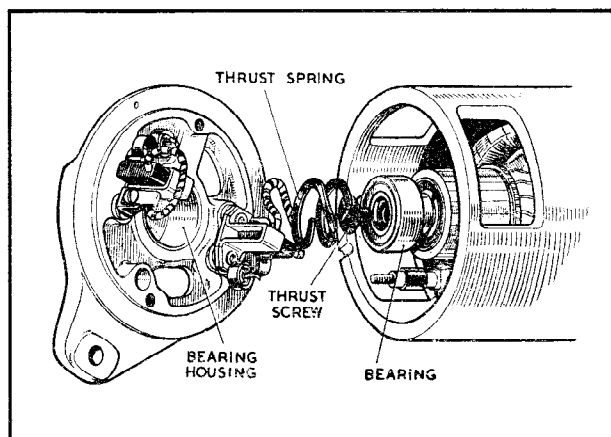

Fig. 12 Commutator end bearing details (generators C45PVB, C45PVS, etc., later models)
- (ii) With later machines the bearing assembly has been modified (see Fig. 12) to give the bearing a longer service life. The bearing is secured to the armature shaft by a thrust-screw, and can be withdrawn with an extractor after the screw has been removed. See that the new bearing is clean and packed with high melting point grease; force it home against the shoulder on the armature shaft and insert and tighten the thrust screw.
When fitting a replacement armature or commutator end bracket to a generator model C45PVB or C45PVS of the earlier design, it may be necessary slightly to modify the existing end bracket or armature of the generator in order to incorporate the improved bearing arrangement shown in Fig. 12. Damaged or worn components should not be modified in this way; if a new